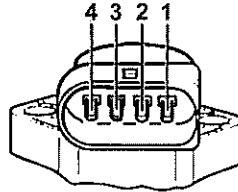

Fig 13 Connector plug for intake manifold temperature sender (G72)
20.9 Remove the connector from the intake manifold temperature sender (G72), located on the main intercooler to EGR valve inlet pipe. Measure resistance between contacts 1 and 2 on the sender (see Fig 13).